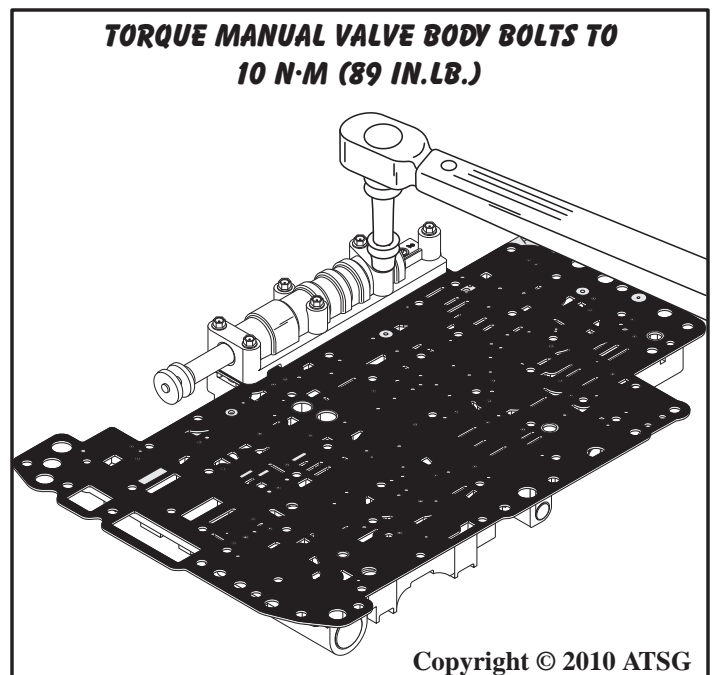

Figure 180
26. Torque all seven manual valve body bolts to 10 N·m (89 in.lb.), as shown in Figure 180.